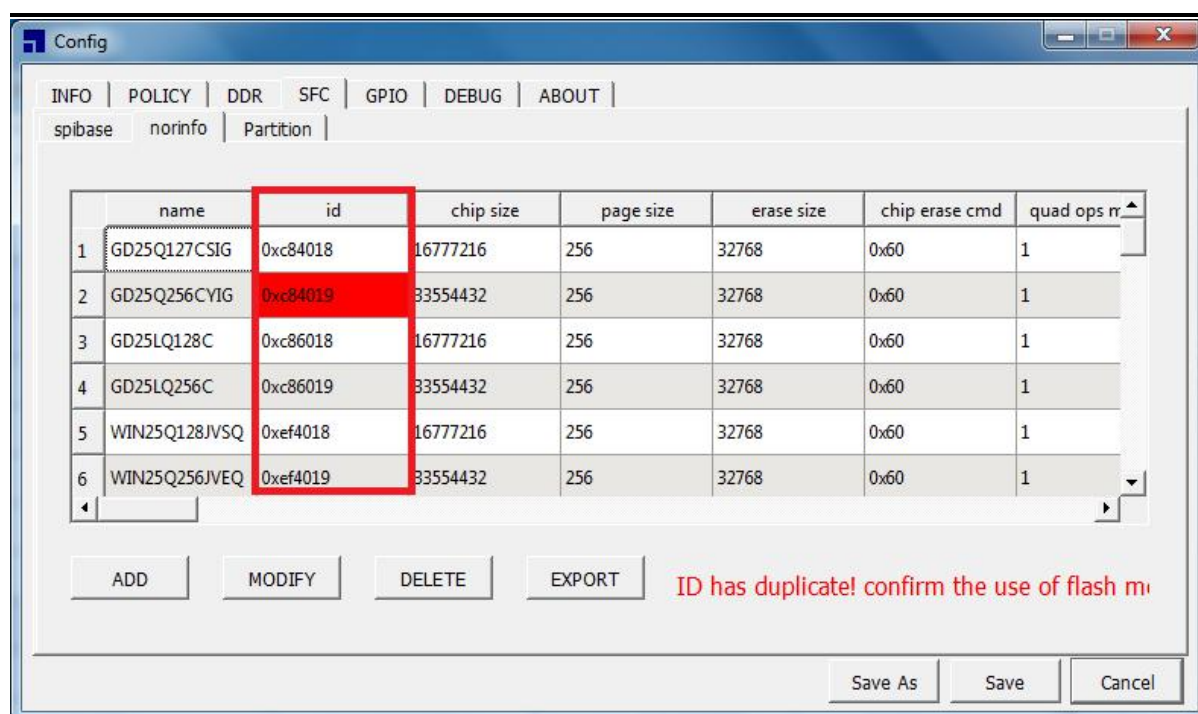

Figure 3-6 NOR ID query interface
① **Nor ID:** it belongs to the configuration option of the “merge image” function. Before merging the image, if you want to merge the nor information parameters into the uboot image, fill in the ID to be merged into the NOR flash in the uboot image. You can use nor flash ID to query from the ID list in “SFC” interface / “norinfo” interface, as shown in Figure 3-6. (refer to 3.4.7.2 “norinfo” interface for details)
Query and select id from the ID list in “**SFC**” interface / “**norinfo**” interface, as shown in Figure 3-6.